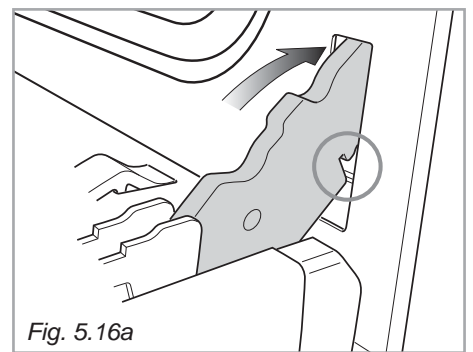

Fig. 5.16a
- Insert the hinge tongues into the slots, making sure that the groove drops into place as shown in the fig. 5.16a.